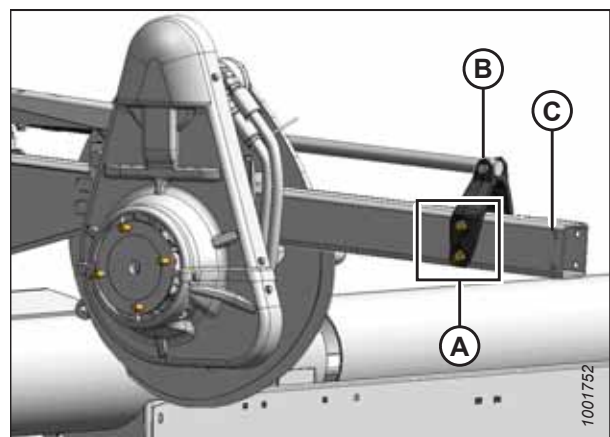

Figure 3.106: Rearward Position
- Rearward position, refer to Figure 3.106, page 92
5. Reinstall four bolts (A) to secure bracket (B) to reel arm at new position.